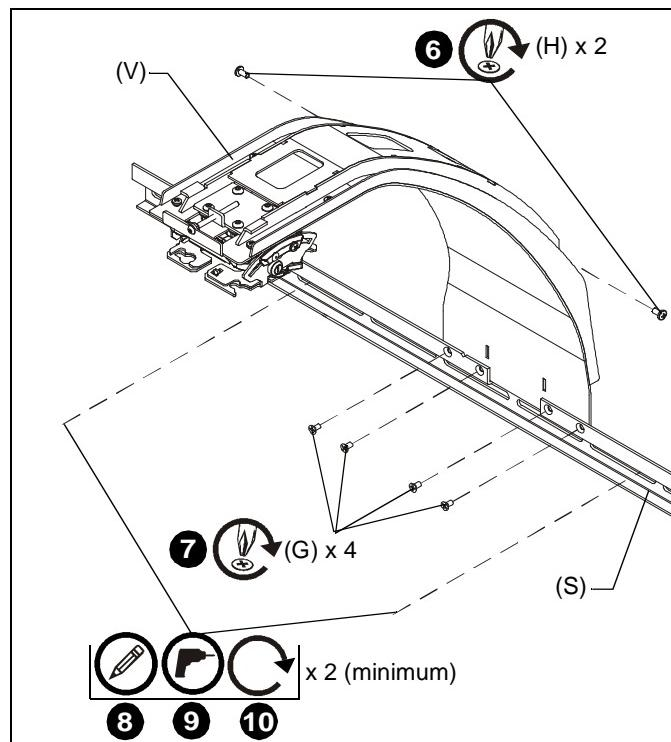

Figure 4
6. Install and tighten two 10-24 x 3/8" Phillips cap head screws (H) through upper arm of boom projector mount (V) into vertical portion of wall bracket (S). (See Figure 4)
7. Install and tighten four 10-24 x 3/8" Phillips flat head screws (G) through wall bracket (S) into boom projector arm (V). (See Figure 4)
9. Drill one pilot hole (see Table 1 for size) at each location marked in Step 8 (See Figure 4) and follow fastener information (appropriate for wall type) located in Table 1.
10. Fasten wall bracket assembly to wall using fasteners appropriate to wall type (See Table 1). (See Figure 4)